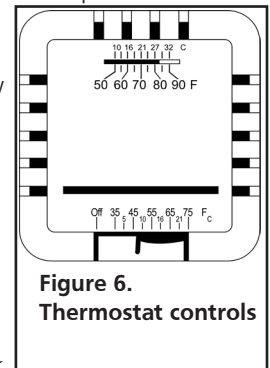

Figure 6.
2. Set the thermostat to the desired temperature setting. See Figure 6.
4. After ignition the spark electrode/flame sensor monitors the pilot flame. If a pilot flame is not recognized within 15 seconds the control will immediately try to reignite. If the pilot flame is not established after (3) ignition sequences the heater will lockout. The control can be reset by briefly interrupting the power source then repeat above steps.